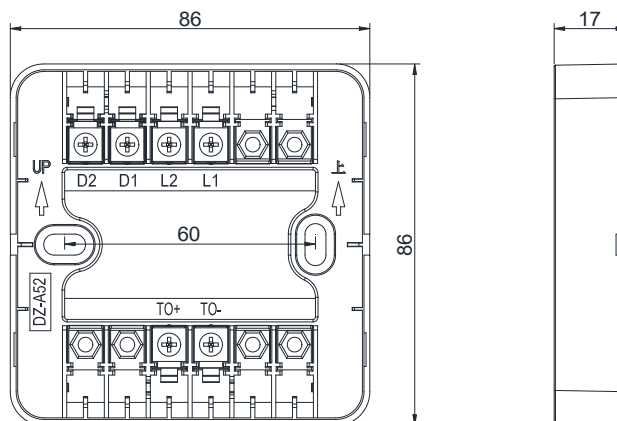

Figure2 JK-A52E Module Base(DZ-A52)
- 5.4 According to the construction drawings, use two M4 screws to secure the base of the module through the two oval screw holes shown in Figure 2, and then insert the main body of the module into the base of the module. Ensure that the two are in good contact.